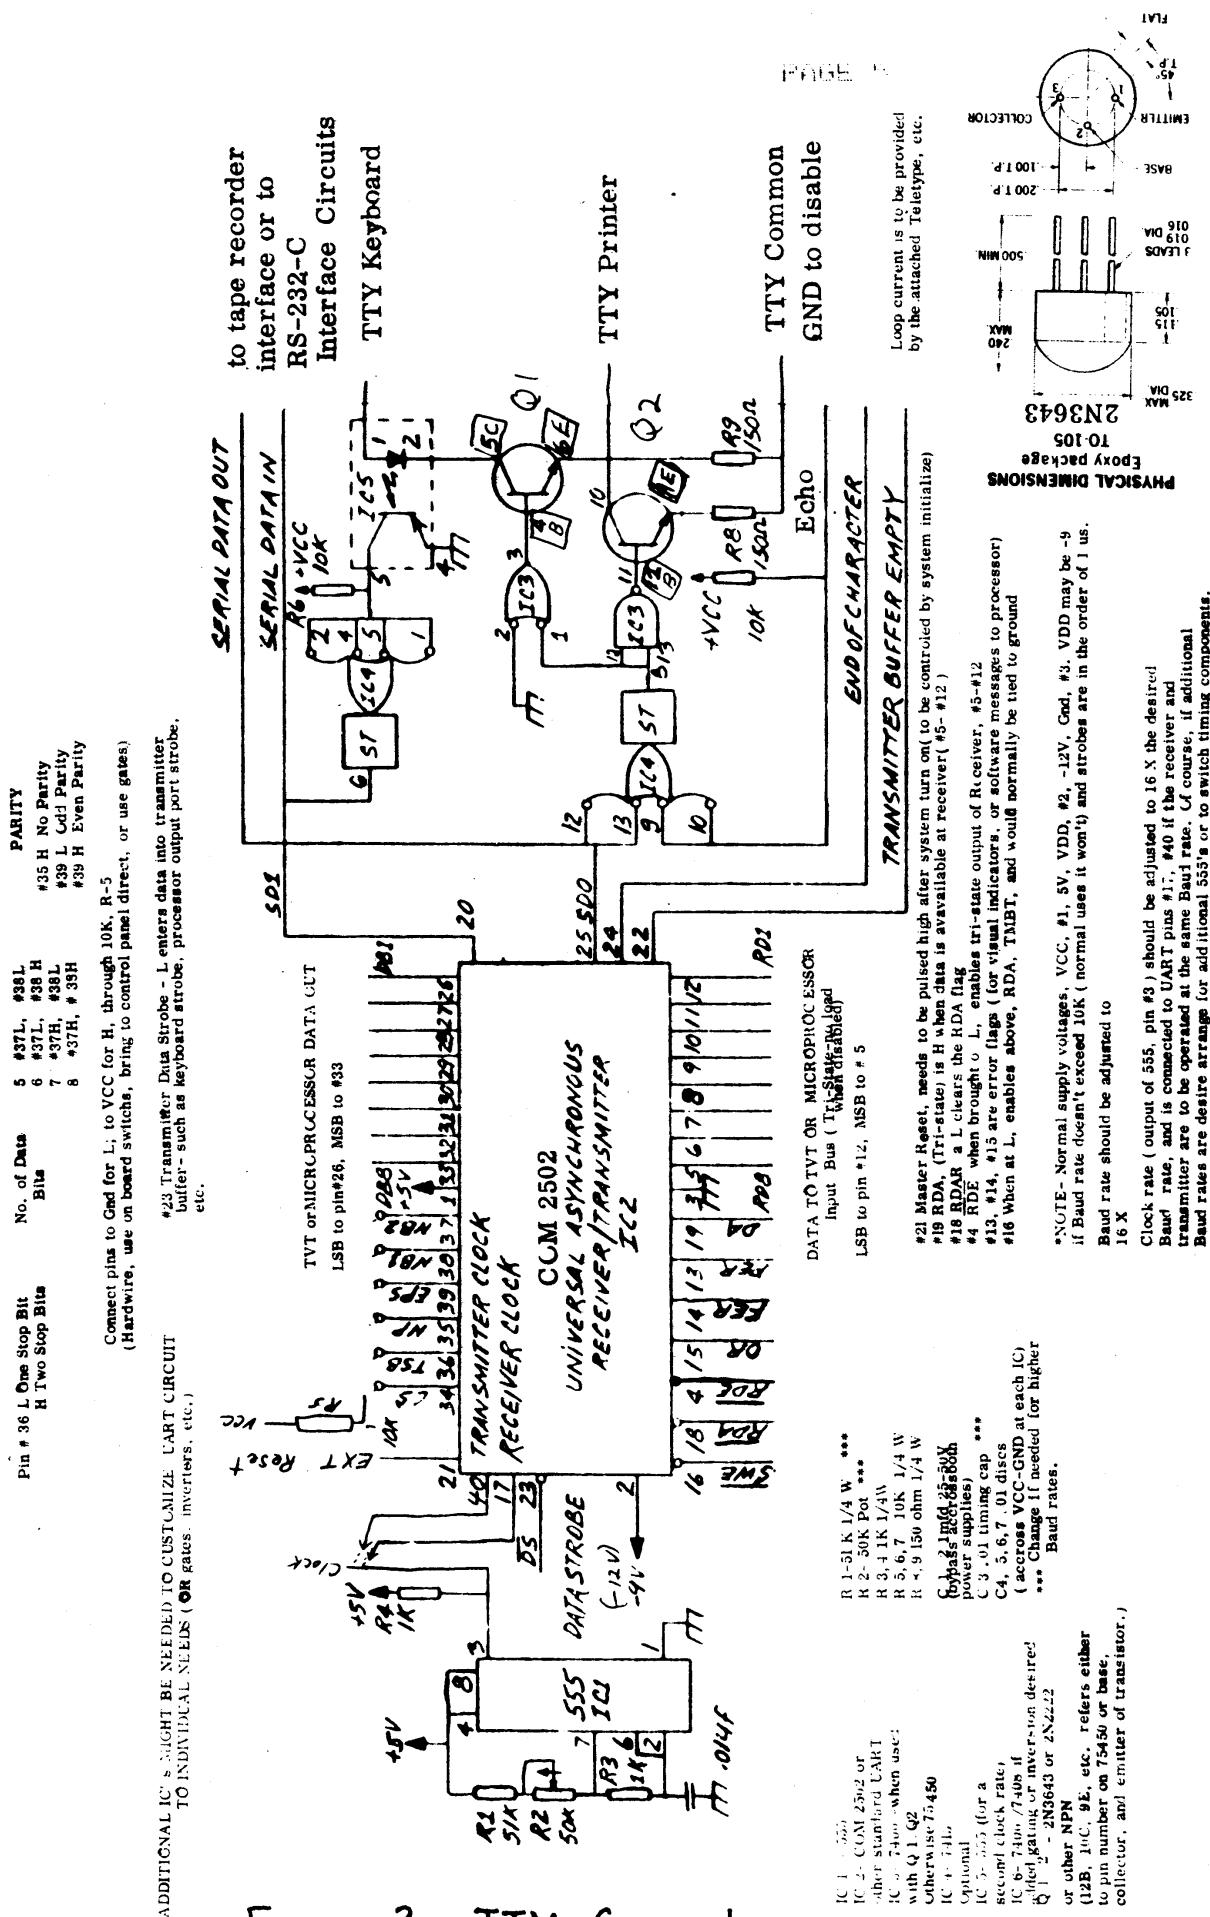

Figure 2 TTY Connection
5. HOW DO I CONNECT A TELETYPE? A SCHEMATIC IS SHOWN IN FIG. 2.